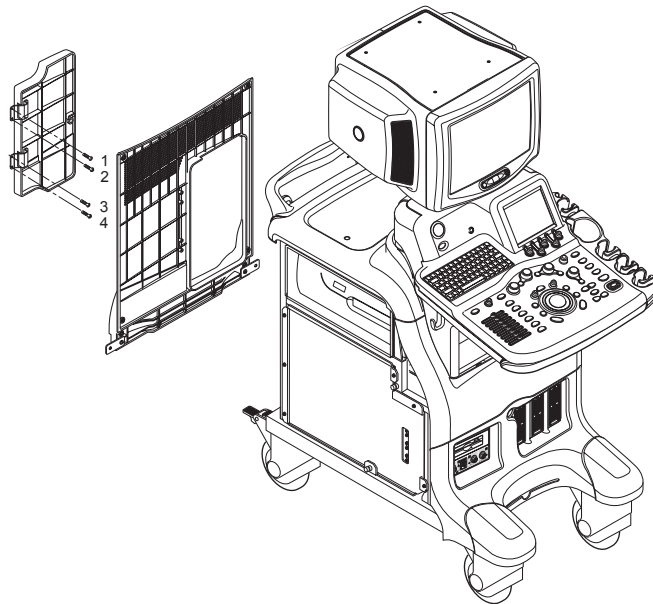

Figure 8-51 Removing the Rear Door Cover
- 4.) Unscrew four screws (1-4). Refer to section Figure 8-51 on page 36.